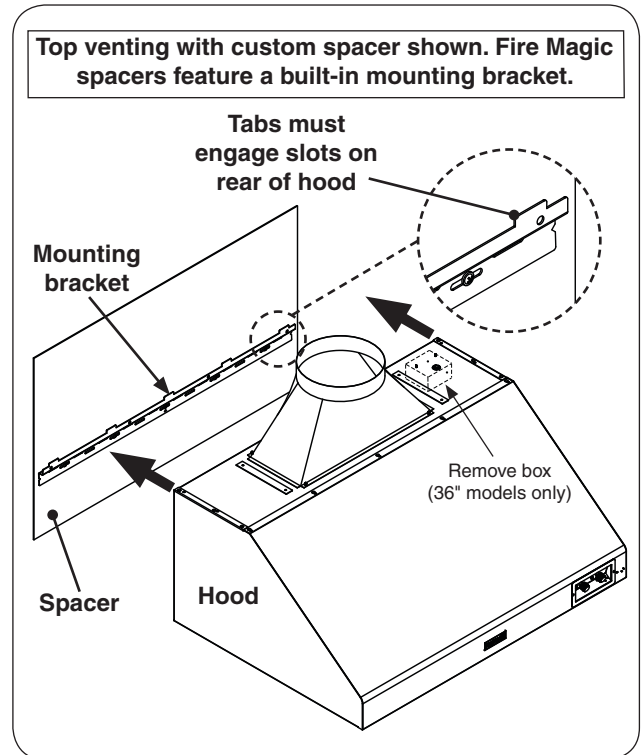

Fig. 15-1 Mount vent hood
2. Rest the vent hood onto the mounting bracket, being sure that the tabs on the bracket engage the slots on the rear of the hood for proper support (see Fig. 15-1).